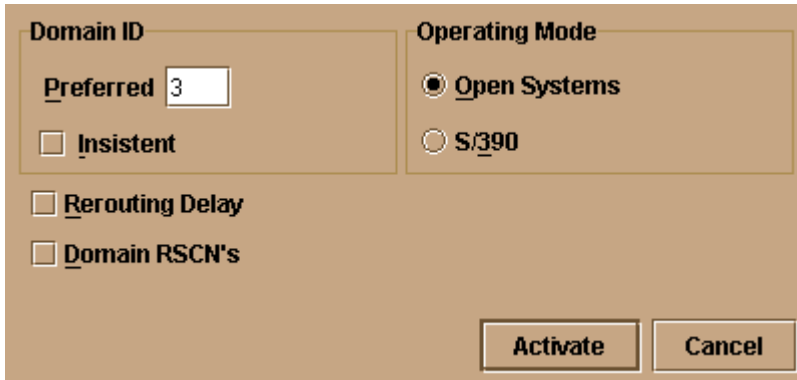

Figure 2–14: Configure Switch Parameters dialog box
2. Choose **Configure > Operating Parameters > Switch Parameters**. The **Configure Switch Parameters** dialog box displays, as shown in Figure 2–14.